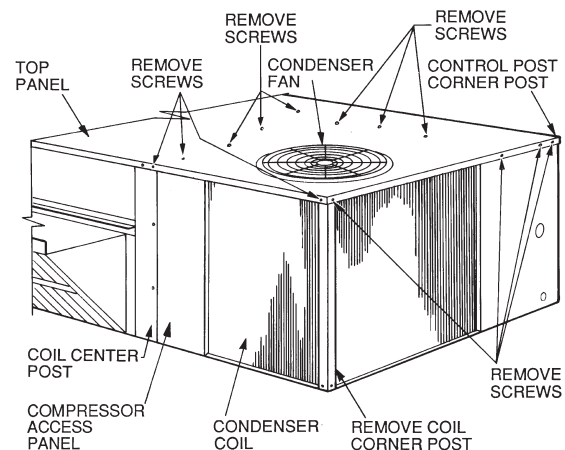
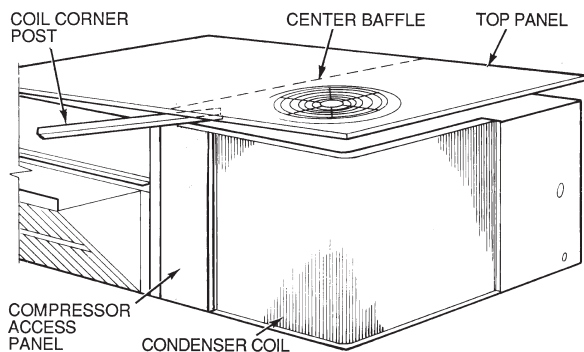

Fig. 12 — Cleaning Condenser Coil
Fig. 13 — Propping Up Top Panel
3. Remove condenser coil corner post. (See Fig. 12.) To hold top panel open, place coil corner post between top panel and center post. See Fig. 13.
5. Remove fastener holding coil sections together at return end of condenser coil. Carefully separate the outer coil section 3-in. to 4-in. from the inner coil section. See Fig. 13.